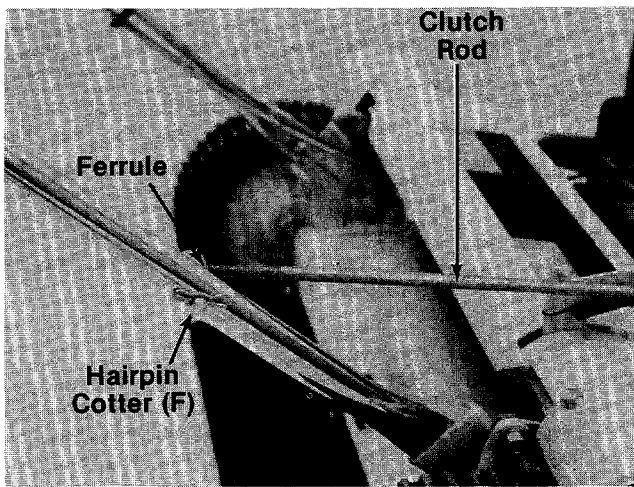

FIGURE 10.
18. Pivot the clutch rod back. Thread the ferrule onto the clutch rod until the ferrule lines up with the hole in the lower handle. Secure ferrule in handle with hairpin cotter (F) as shown in figure 10. Check for 1/16" clearance between drive pinion and front wheels. Refer to **Clutch Rod Adjustment** on page 11.
1. Remove the cotter pin. See figure 10.